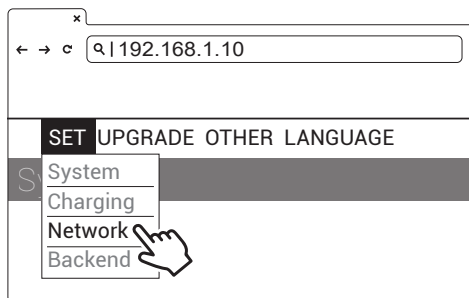

Figure 29. SET Menu
1) Select Network. See Figure 29